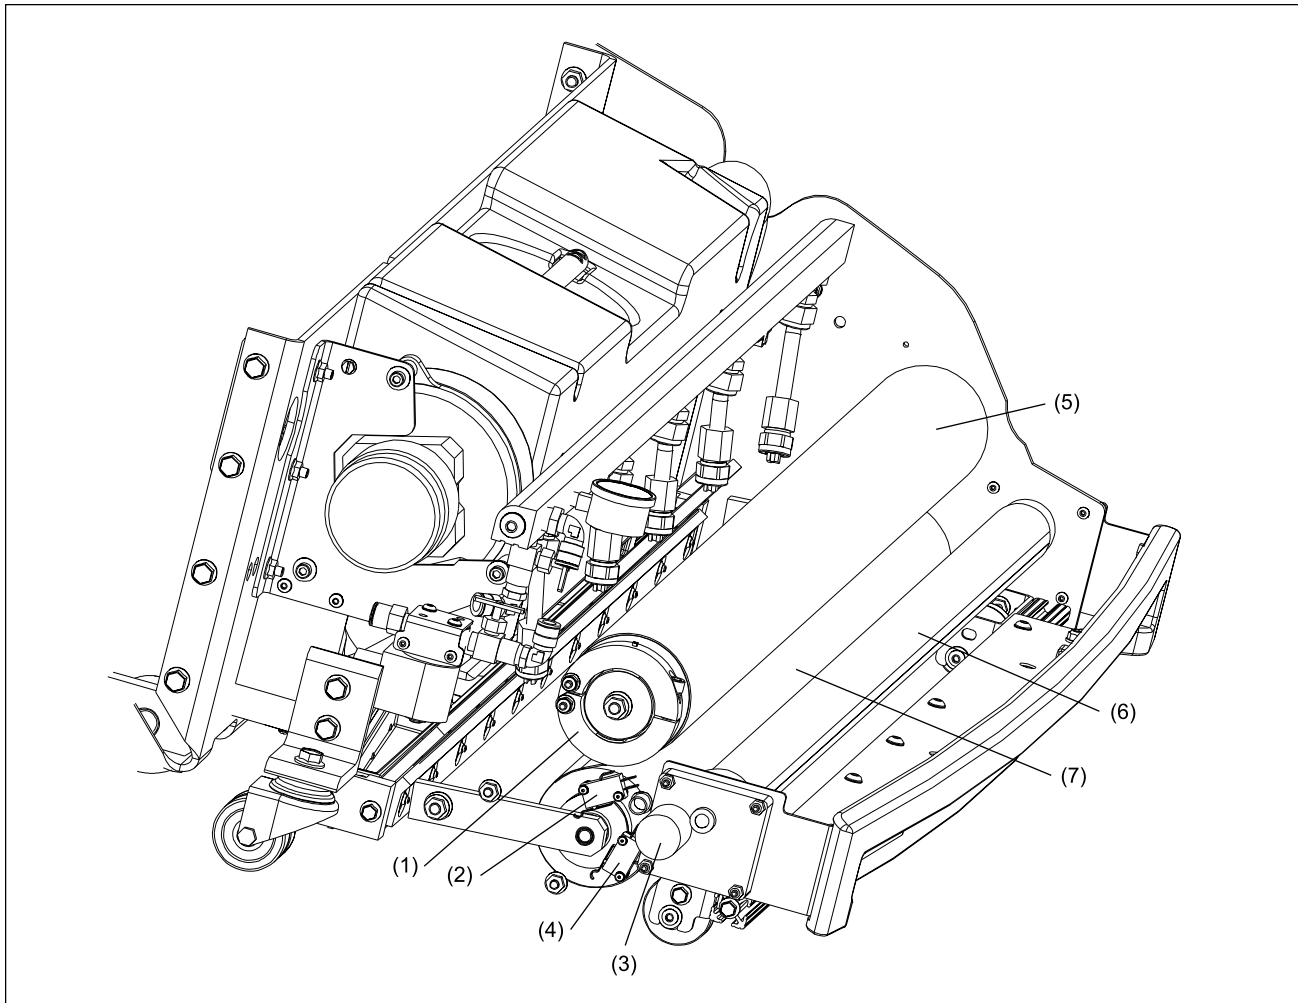

Figure 6-1. Duster Cloth System
1. The duster cloth removes dust and dirt from the lane surface. Refer to Figure 6-1.